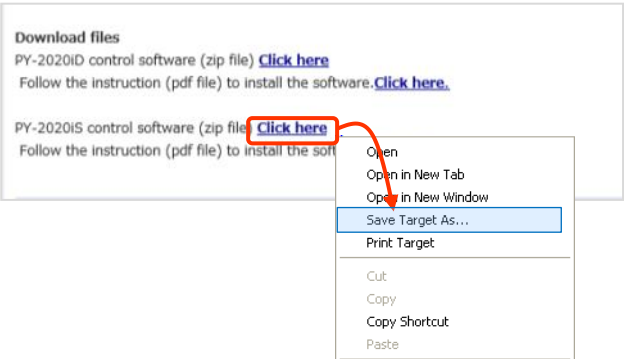

Fig. 4.1
- 4.1 Download PY-2020iS control software Ver. 3.04 from Frontier Labs webpage (<https://www.frontier-lab.com/support/product-support/>). Right-click the zip file in Fig. 4.1 framed in red, then choose “**Save Target As**”.